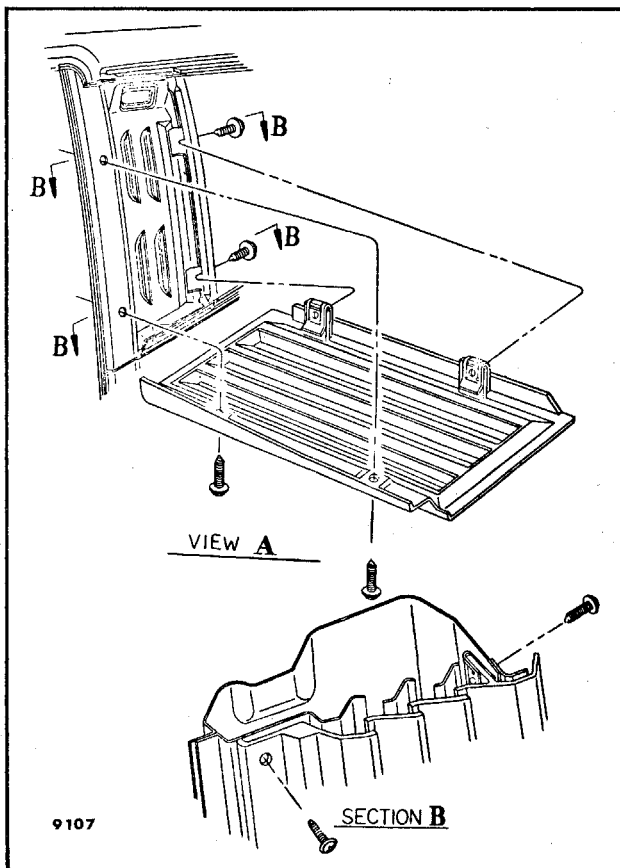

Fig. 4-19 - Louver Assembly - "H-07" styles
1. Remove two louver to body lock pillar (above belt) attaching screws (Fig. 4-19).
5. Remove two louver to body lock pillar attaching screws from body upper lock pillar and remove louver (Fig. 4-19).